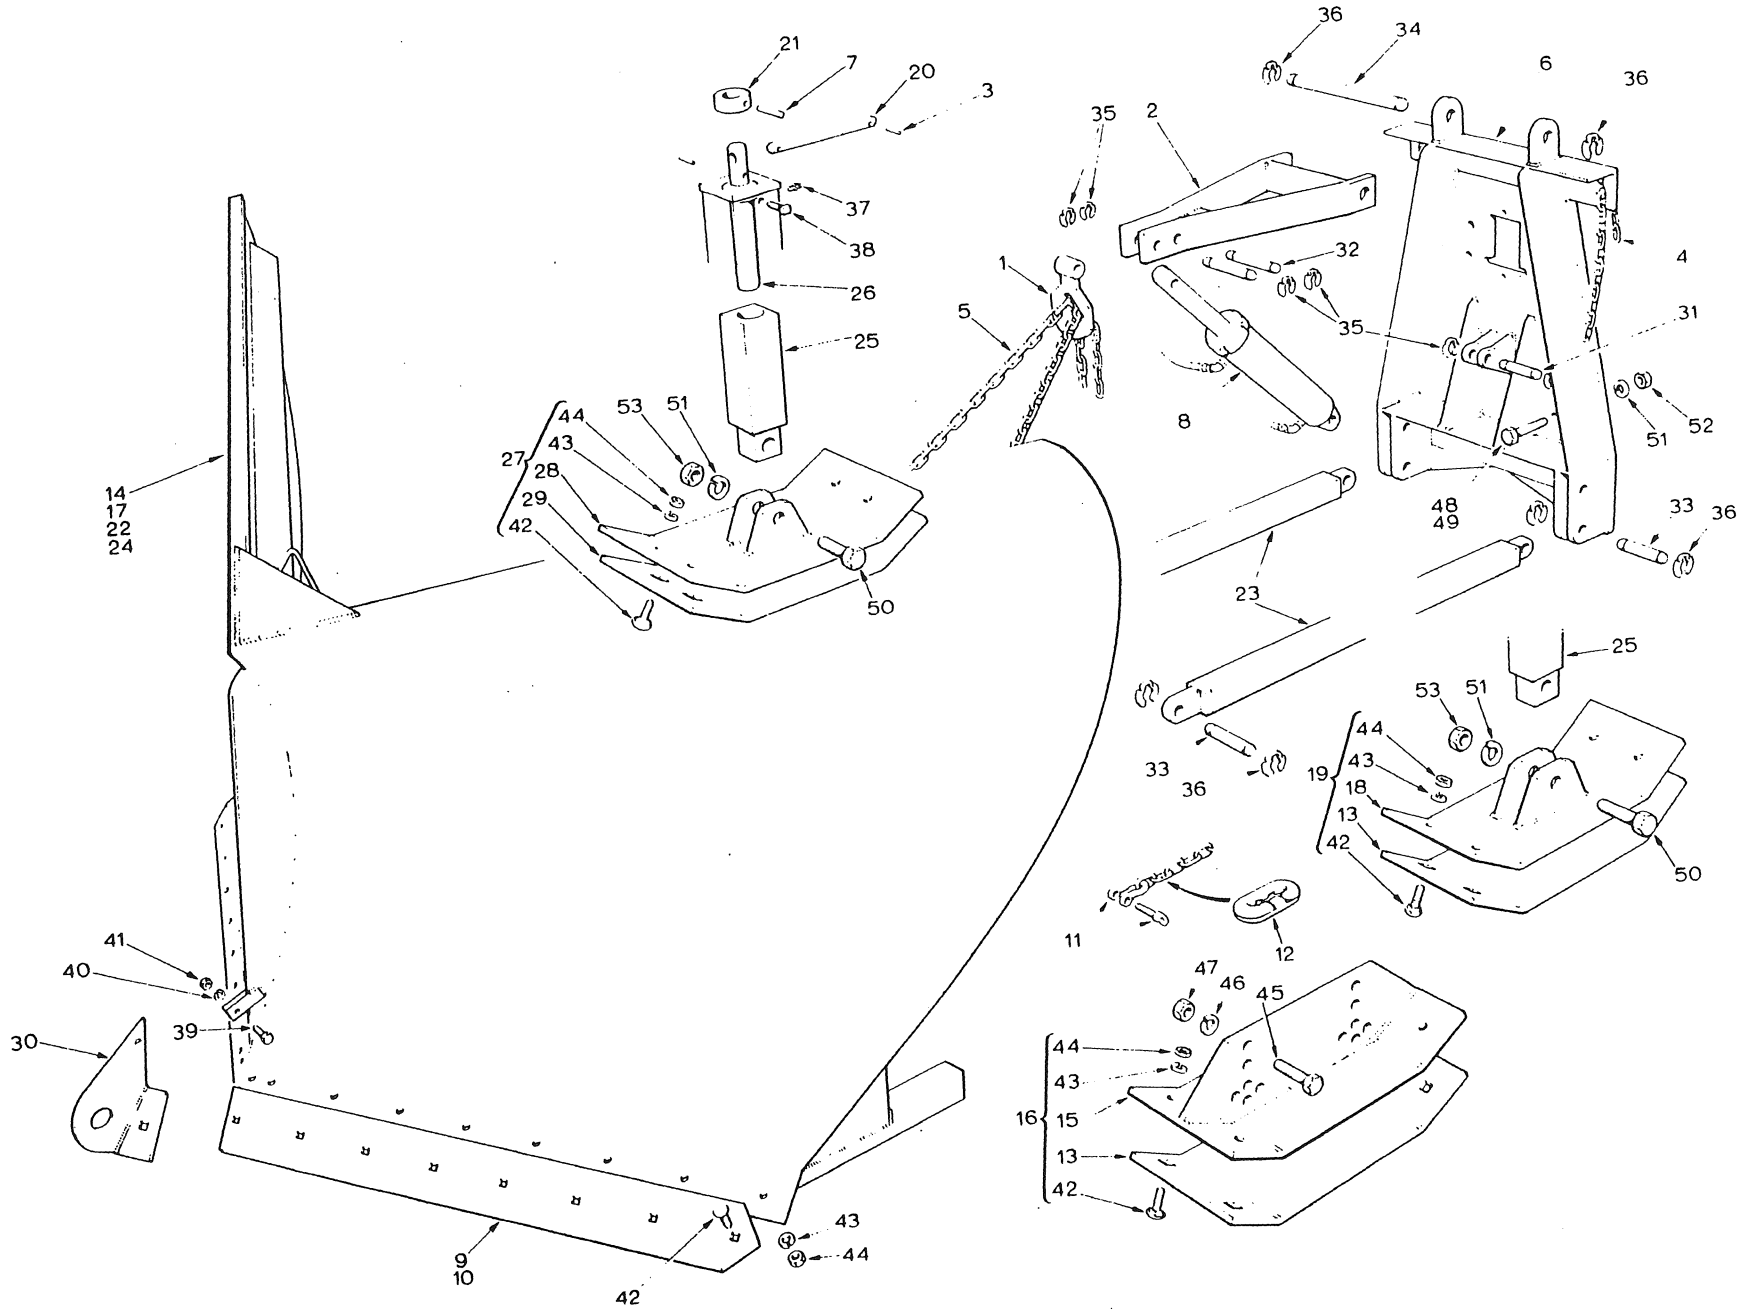
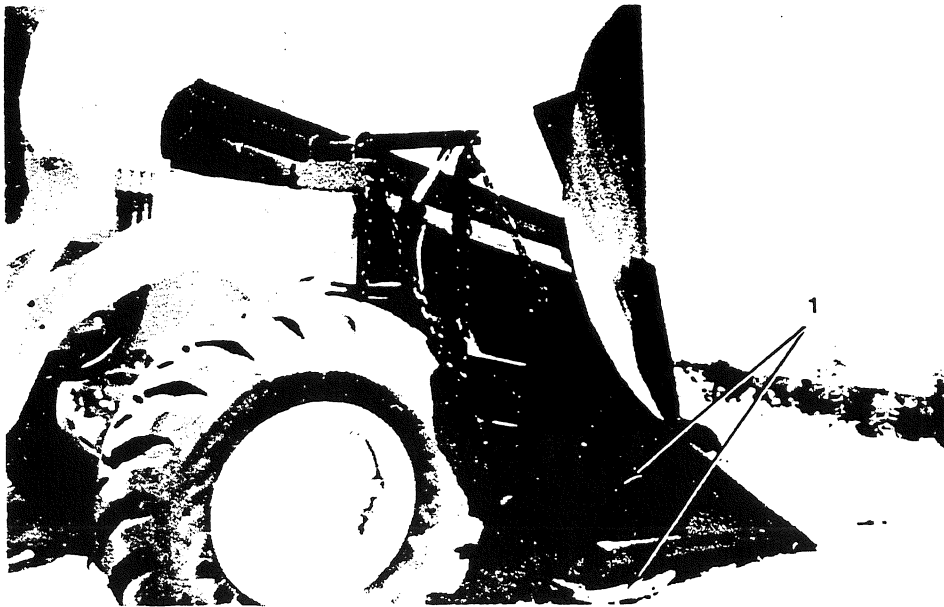
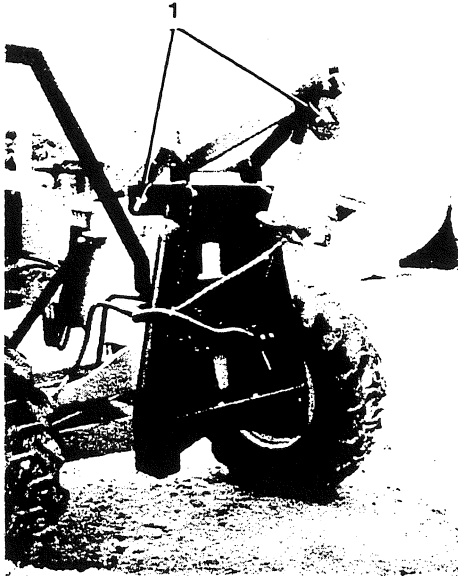

Figure 5
Figure 6
Figure 7
KEY TO FIG. 5
1. Removal and Disassembly (Fig. 5).
5. Remove the klipring fasteners (36) securing the pins (33) connecting the push rods to the A-frame (6). Remove the pins and the push rods.
6. Attach suitable lifting tackle to the yoke (2). Remove the klipring fasteners (35) securing the pin (32) connecting the spade to the yoke. Remove the pin and spade.
7. Remove the klipring fasteners (35) securing the two pins (31 and 32) connecting the cylinder (8) to the A-frame and yoke. Remove the pins and cylinders.
8. Arrange the hoist in such a way that the lifting tackle will support the weight of the A-frame. Remove the eight hexagon head capscrews (48 or 49), nuts (52) and lockwashers (51). Lower the A-frame onto the ground. Remove the two klipring fasteners (36) securing the pin (34). Remove the pin and the yoke. Hoist the A-frame away from the grader. Remove the lifting tackle.
9. Assembly and Installation (Fig. 5). Install the yoke (2) onto the A-frame (6), and retain with the pin (34). Secure the pin with two kliprings (36).
10. Attach suitable lifting tackle to the yoke. Hoist the yoke and A-frame into position on the grader nose plate. Install the eight hexagon head bolts (48 or 49), nuts (52) and lockwashers (51).
11. Place the cylinder (8) in position, and retain with the pins (32 and 31) at the yoke and the A-frame. Secure each pin with two kliprings (35). Remove the lifting tackle.
12. Install the spade (1), and retain with the pin (32). Secure the pin with two kliprings (35).
13. Place the push rods (23) into position at the A-frame attachment points. Install the two pins (33), and secure with the kliprings (36).
14. Attach suitable lifting tackle to the V-plow blade (14, 17, 22 or 24) and place into position at the push rod attachment points. Install the two pins (33), and secure with the kliprings (36). Install the four chains (4 and 5), to the spade and the A-frame. Remove the lifting tackle.
16. Adjustments (Figs. 5, 6 and 7). The plow shoes should be adjusted so that the edges of the plow are high enough to prevent scraping the road surface (1, Fig. 6). Two types of shoe adjustment are available as follows:
- a. Standard Shoes. Four standard shoes (16, Fig. 5) - two front, two rear are retained on the V-plow blade frame by two hexagon head bolts (45, Fig. 5), nuts (47, Fig. 5) and lockwashers (46, Fig. 5) per shoe. Adjustment is effected by raising the V-plow blade off the ground, removing the hardware, selecting the new position and installing the hardware into the alternative holes. Lower the blade.
- b. Optional Shoes. Three shoes - one front (27, Fig. 5), two rear (19, Fig. 5) - are available as an optional arrangement, and are connected to an adjustment screw and swivel assembly by one hexagon head bolt (50, Fig. 5), nut (53, Fig. 5) and lockwasher (51, Fig. 5) per shoe. Adjustment is effected by raising the V-plow blade off the ground and turning the adjusting screw handle (20, Fig. 5) until the desired height is obtained. Lower the blade.
17. If the V-plow blade tends to tip to one side or the other when being raised or lowered, remove any slack in the chains (4, Fig. 5) by adjusting at the A-frame slots. Similarly, remove any slack in the chains (5, Fig. 5) by adjusting at the spade slots until a level movement is obtained (1, Fig. 7).
18. Worn edges (9 or 10, Fig. 5) can be replaced by removing the required quantity of carriage bolts (42, Fig. 5), nuts (44, Fig. 5) and lockwashers (43, Fig. 5); then removing the edges.
20. Worn outer shoes (13 and 29, Fig. 5) can be replaced by removing the required quantity of carriage bolts (42, Fig. 5), nuts (44, Fig. 5) and lockwashers (43, Fig. 5); then removing the outer shoe.